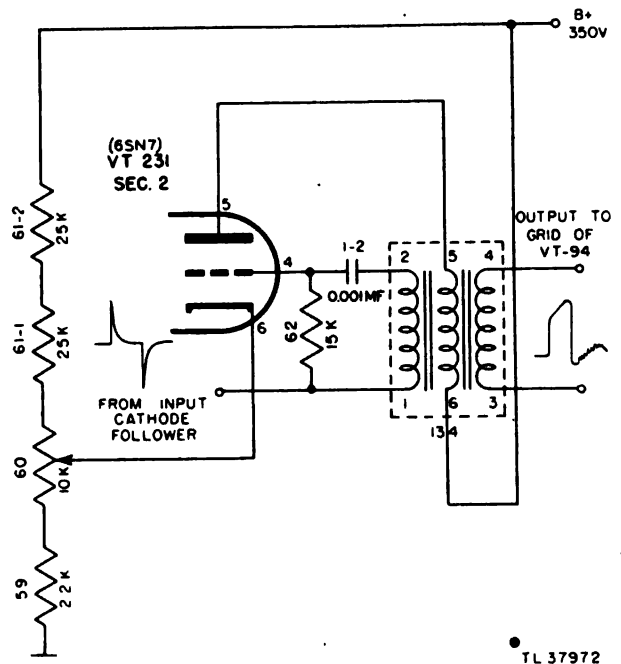

Figure 6. Blocking oscillator VT-231, partial schematic.
a. **GENERAL.** The second half of the VT-231 is connected as a blocking oscillator (fig. 6). It is a triggered regenerative oscillator with a transformer supplying the required feedback from the plate to the grid. The oscillator, how-